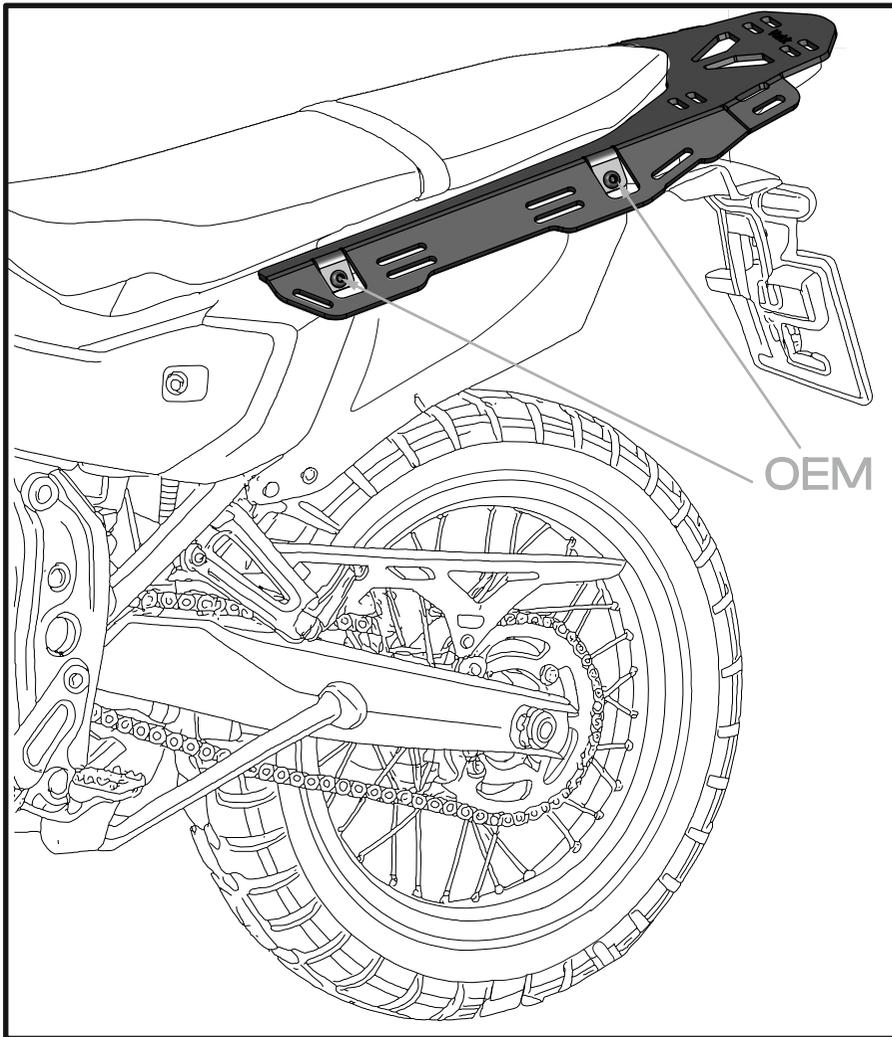
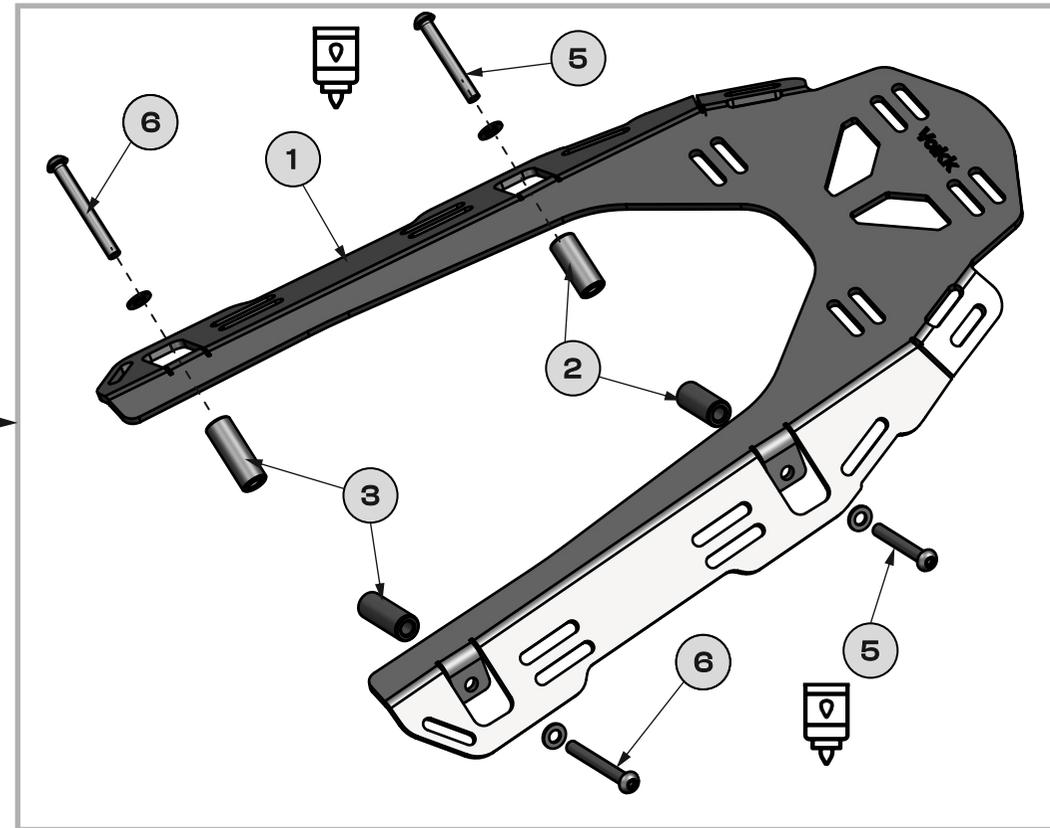

Fig. 2
Fig. 3
**Unscrew and remove** all components installed at the indicated locations to allow installation of the spacers and the luggage rack, and then tighten it using the bolts at the specified mounting points. Repeat this procedure on the opposite side of the motorcycle. Install the luggage rack as shown in **[Fig. 2]**, using the components indicated in **[Fig. 3]**.
Install the luggage rack **[1]** as shown in **[Fig. 2]**, using spacer sleeves **[2]** ( $\text{Ø}8 \times \text{Ø}17 \times \text{H}39$  mm) and **[3]** ( $\text{Ø}8 \times \text{Ø}17 \times \text{H}47$  mm), washers **[4]** (M8, DIN 125), and bolts **[5]** (M8  $\times$  60, DIN 7380) and **[6]** (M8  $\times$  70, DIN 7380) as indicated in **[Fig. 3]**. Repeat this procedure on the opposite side of the motorcycle. Use a medium-strength threadlocker.